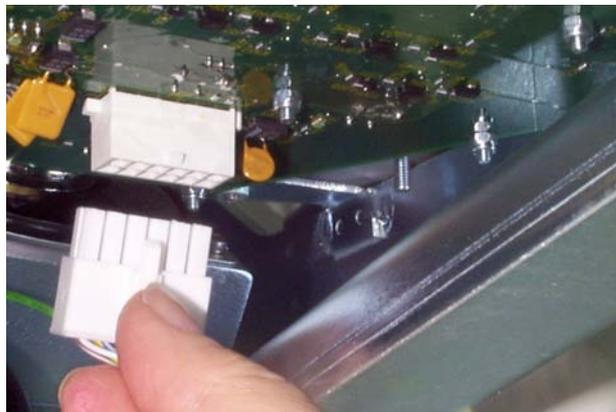

Figure 8-83 Disconnecting the Keyboard Matrix Cables
- 4) Disconnect the four keyboard matrix cables as shown in Figure 8-83 below.
- 11.) Reconnect the four keyboard matrix cables - refer to Figure 8-83 on page 8-98.